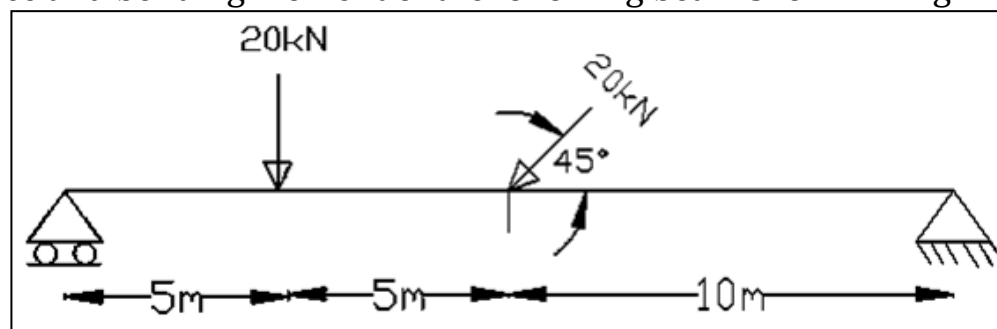

Fig. 4
4. (a) Construct the shear force and bending moment of the following beam shown in Fig. 4.